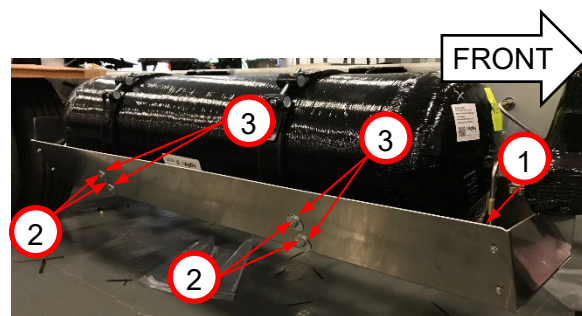

Figure 5:
2. Install eight bolts (2) and eight washers (3) to secure cylinder shield (1) to cylinder mount bracket clips (not visible). *Figure 5*